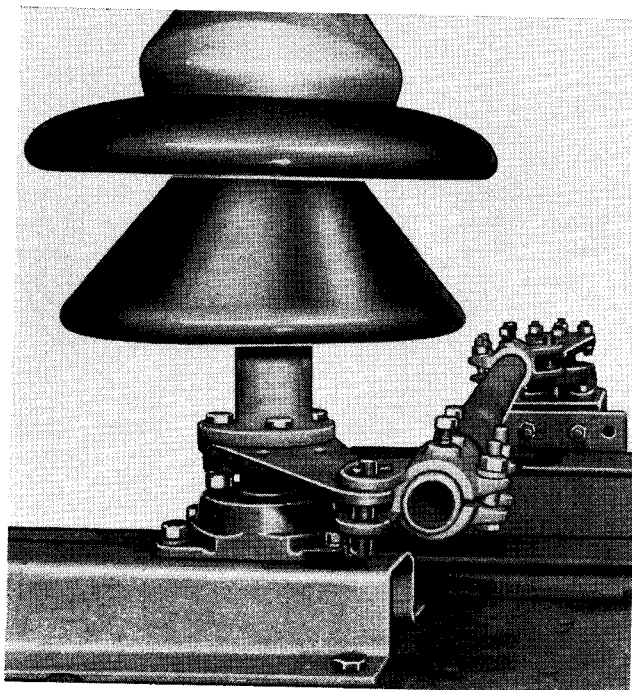
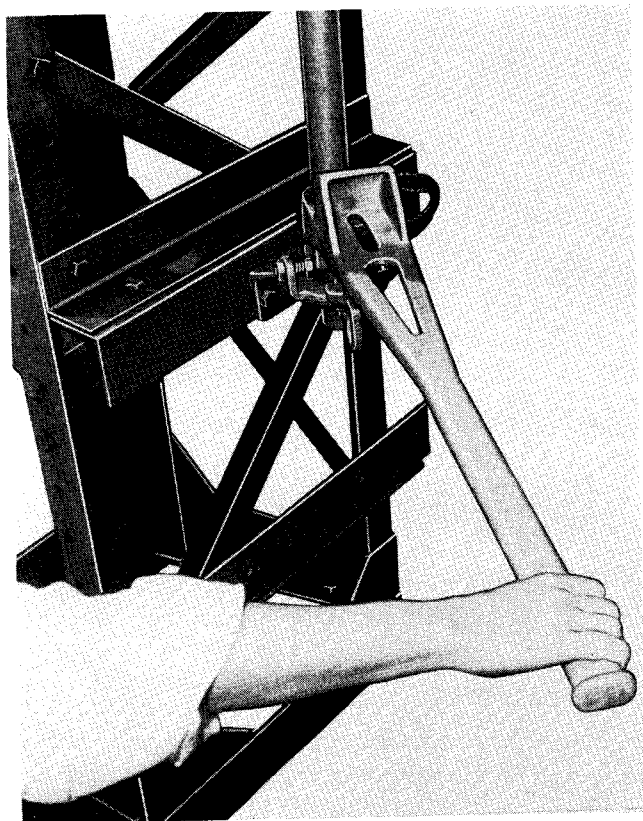

Fig. 8.
Fig. 10.
points directly at the hole in the driven pole unit lever. With both levers in this position, install the rod ends and the connecting pipe. Refer to Fig. 8 for the correct installation of this pipe. Tighten the clamping bolts securely but **do not tighten the set screws at this time.**
(G) The driven pole unit can now be operated with the handle at ground level. Set the "Stop" bolts on the handle for the open and closed positions. See Fig. 10 for proper setting of the "Stop" on the handle. The closed position "Stop" should be set with the outboard bearing lever in a "Toggle" position as shown in Fig. 8. Set the open position "Stop" when the switch blade is fully open against the blade stop.